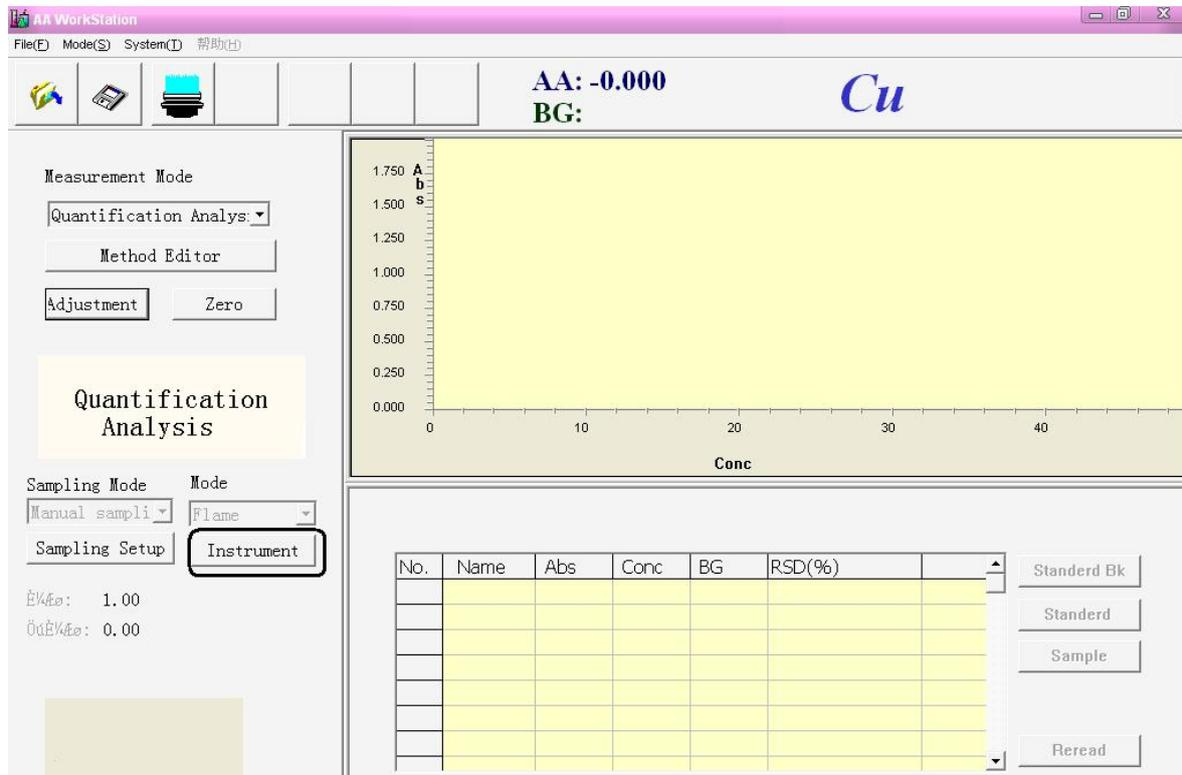
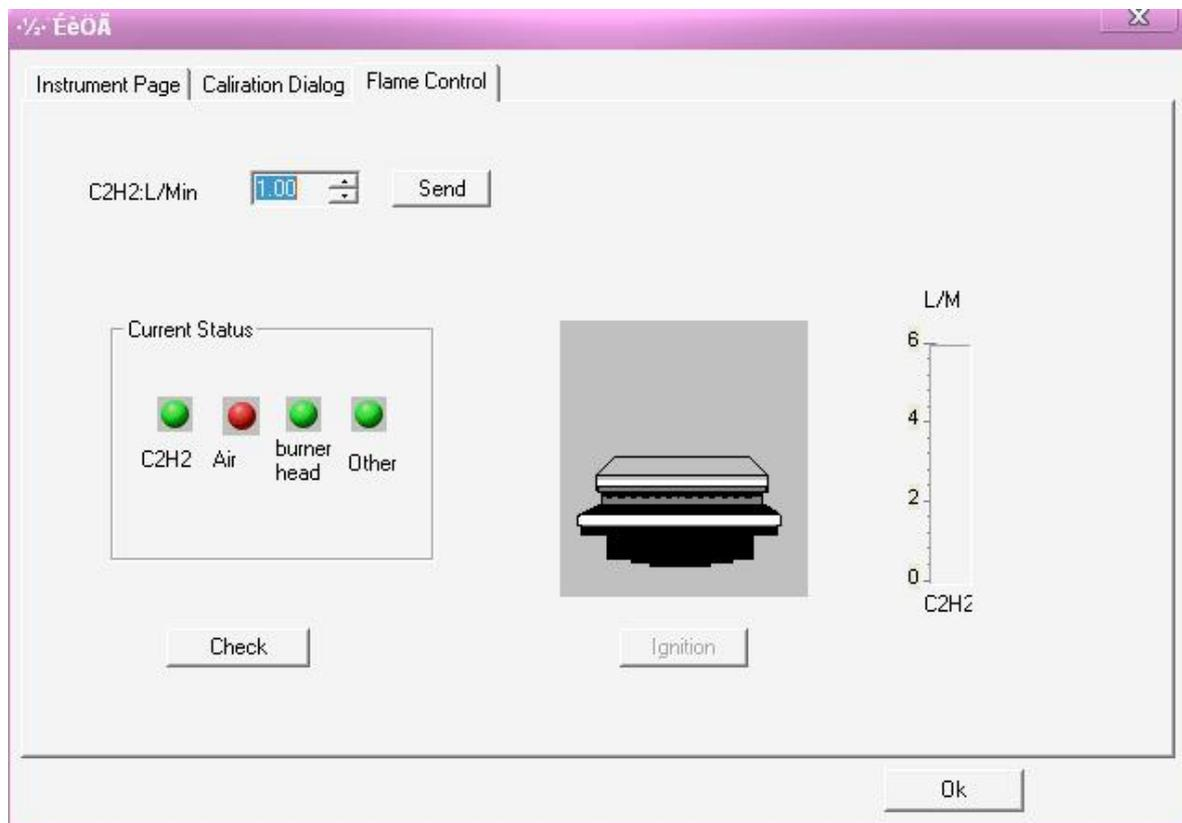

Figure 4-50a
Figure 4-50b
- In Figure 4-50a, press **【Instrument】** button into the "Flame Control" page. Figure 4-50b